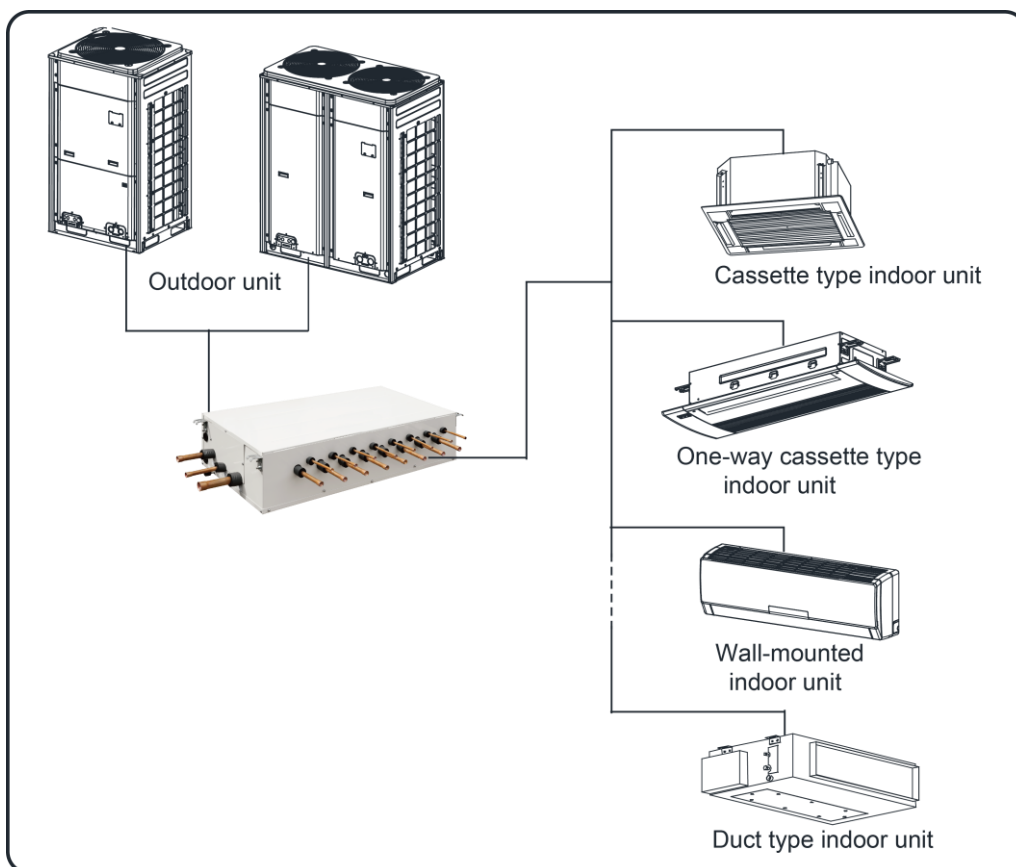

Fig. 2.3.1
(3) Outdoor units of Gree Heat Recovery DC Inverter VRF System can be connected to multi VRF indoor units, including cassette type unit, one-way cassette type unit, wall-mounted unit and duct type unit, as shown in Fig.2.3.1. When any one of the indoor units receives operating command, outdoor unit will start operation as per required capacity. When all indoor units stop, outdoor unit will be shut off. Please note